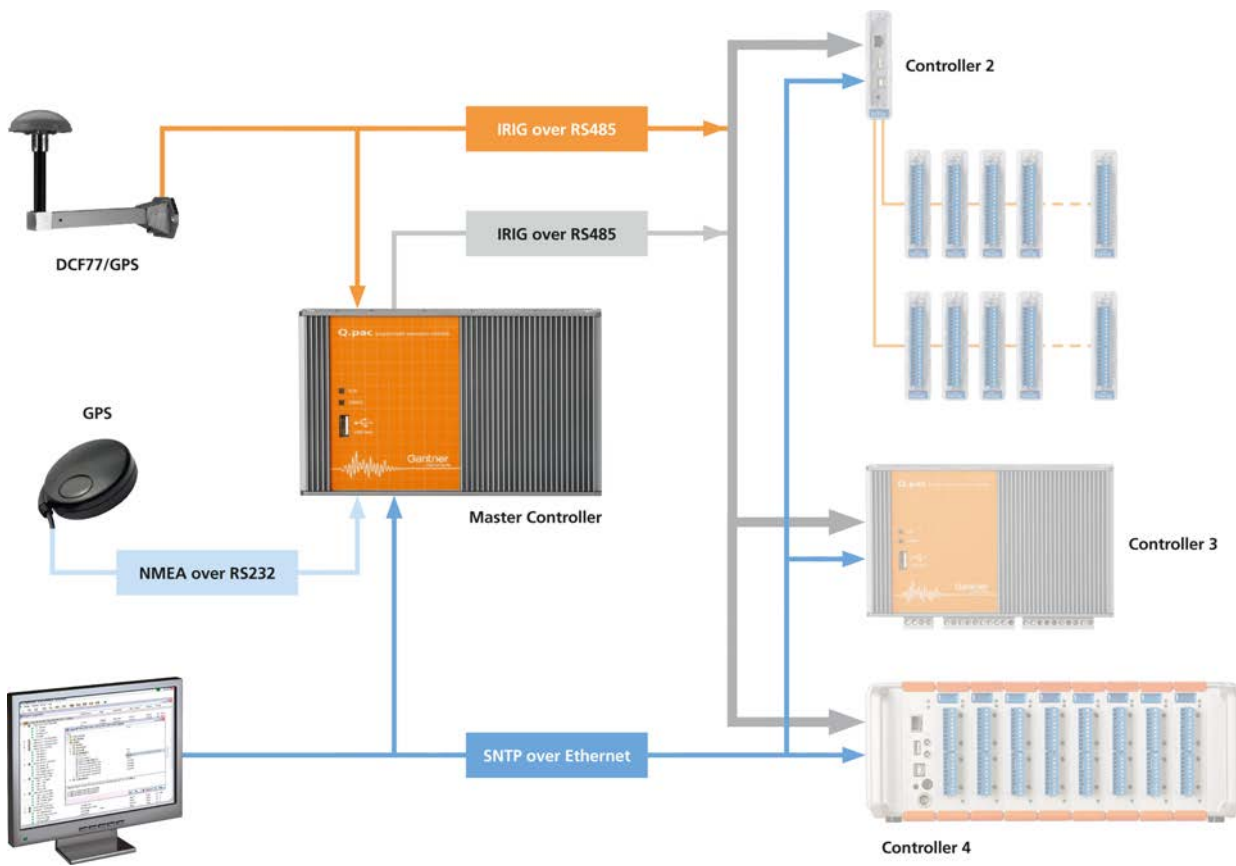

Fig. 4-13 Possible types of time synchronization.
You have various methods of obtaining synchronization, even with several *systems* (refer also to Fig. 4-13 on page 40):
1. Use the time signal in the Q.pac Test Controllers based on the IRIG standard (Inter Range Instrumentation Group) to synchronize all other Test Controllers to one master controller. The master controller (first device in the chain of devices) uses its internal clock for the date/time stamp (gray path in Fig. 4-13). For this type of synchronization you must lay synchronization lines between the Test Controllers; the maximum length of all lines together is 400m. The master controller transfers the time stamp through an RS-485 link to the other Test Controllers. This method achieves the best time synchronization with the smallest jitter (approx. $\pm 2 \mu\text{s}$) between the individual modules, because the time information passes simultaneously to all Test Controllers.
As master controller this then synchronizes all other Test Controllers using IRIG (orange colored path in Fig. 4-13) as with Variant 1. If it is not possible to connect the individual Test Controllers via synchronization lines or this is not desired, you can also connect a receiver to each Test Controller (Variant 2b).
With this method the time information of the GPS signal is evaluated instead of a pure time signal. In addition you can also process the position details of the GPS receiver in the system and assign the measurements (light blue path in Fig. 4-13). If it is not possible to connect the individual Test Controllers via synchronization lines or this is not desired, you can also connect a receiver to each Test Controller (also to Q.gate) (Variant 3b).
4. You define a PC as an SNTP time server which can distribute the NTP time stamp to all Q.gate or Q.pac Test Controllers (dark blue path in Fig. 4-13).